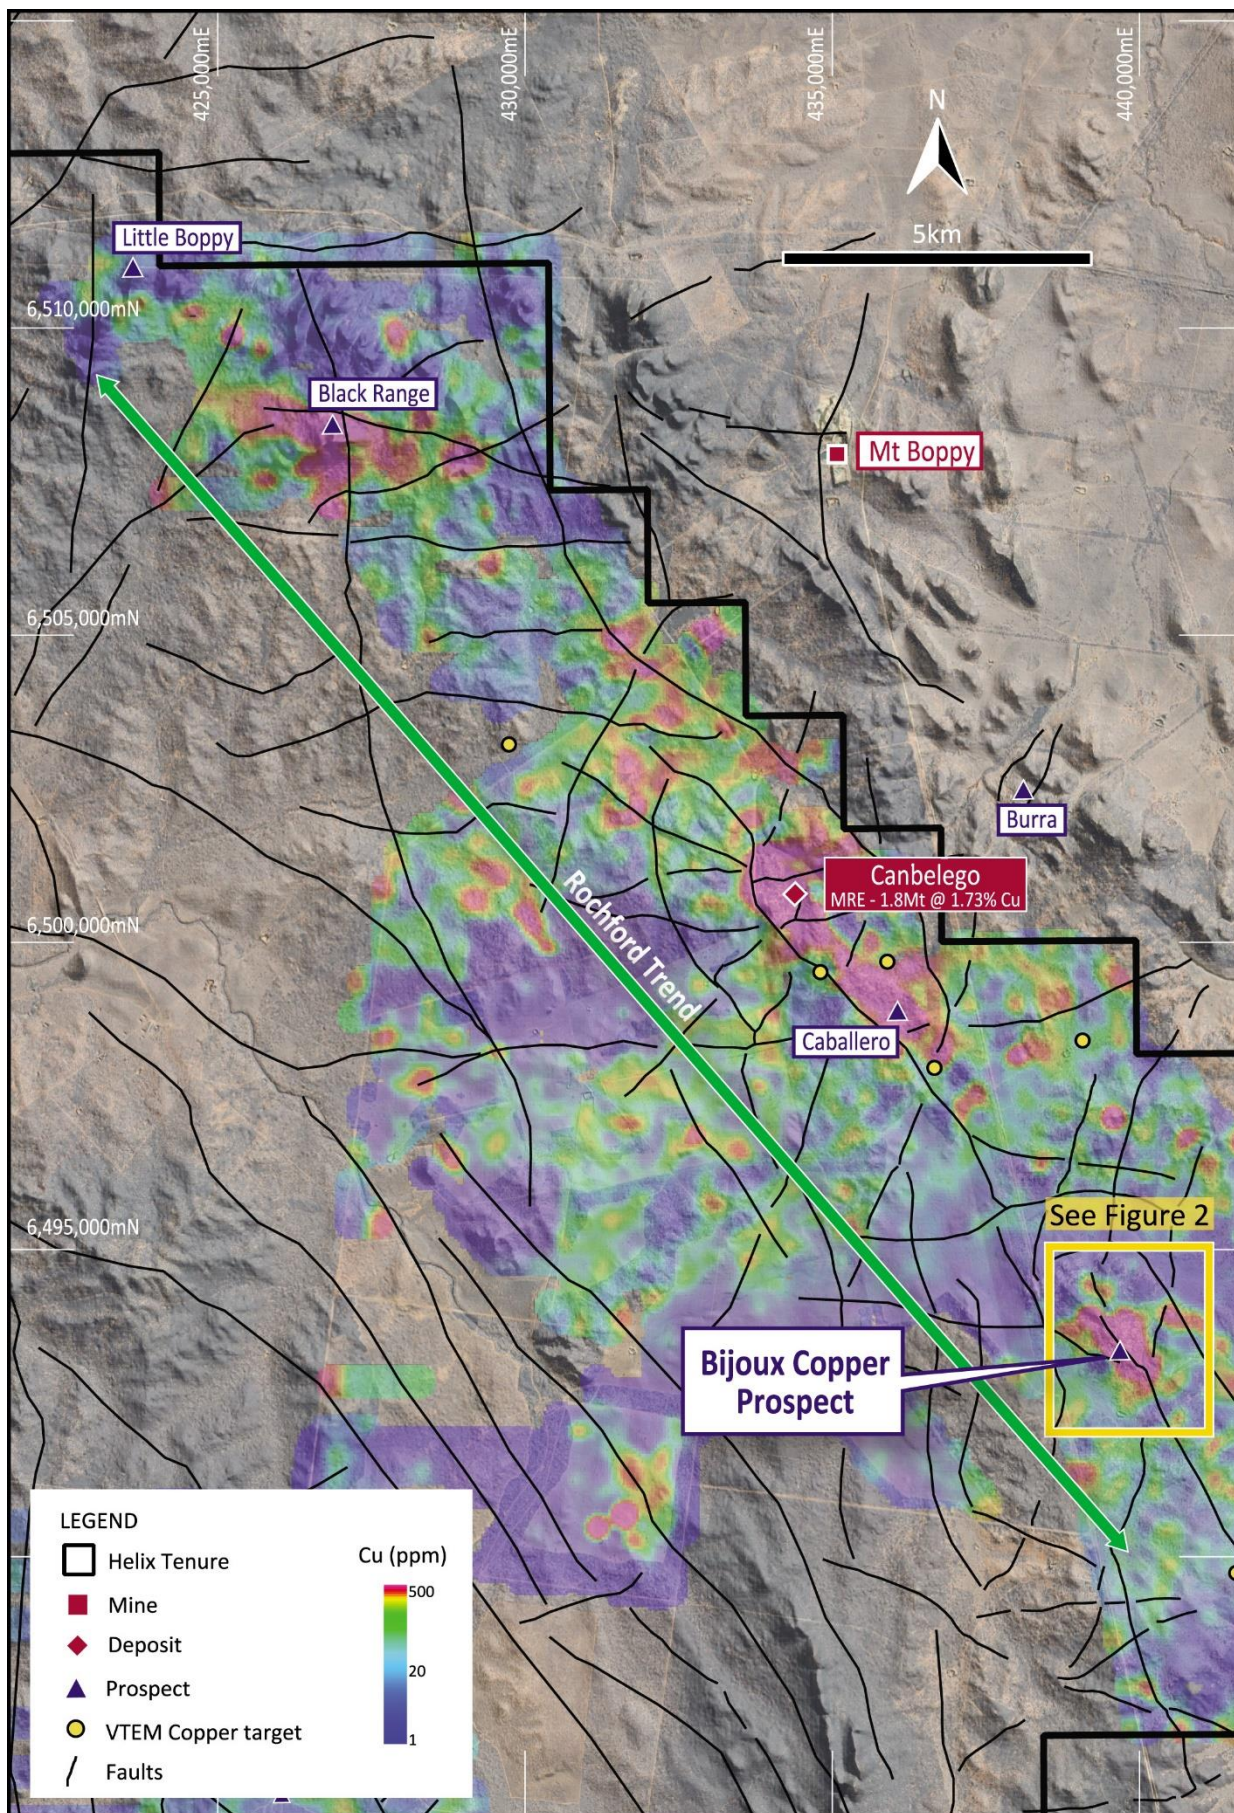

Figure 1 – Rochford Trend copper geochemical anomalies². See Figure 2 for inset.
The Rochford Copper Trend is a 30km trend with historical mines, copper and VTEM anomalies extending from the Little Boppy and Black Range prospects in the northwest to south of Bijoux in the southeast (**Figure 1**). The Company has undertaken an extensive geochemical sampling program over the Rochford Trend which has generated significant copper (Cu) geochemical anomalies³. One of these is the Bijoux Prospect, where a 1.6km x 0.6km copper anomaly was defined by infill and extensional auger sampling and where follow-up reverse-circulation (RC) drilling was completed in November 2023. Downhole EM (DHEM) surveys were also completed on six of the RC holes in December 2023. This report provides an update on the Bijoux RC assay results and the DHEM survey results, which have now been received.